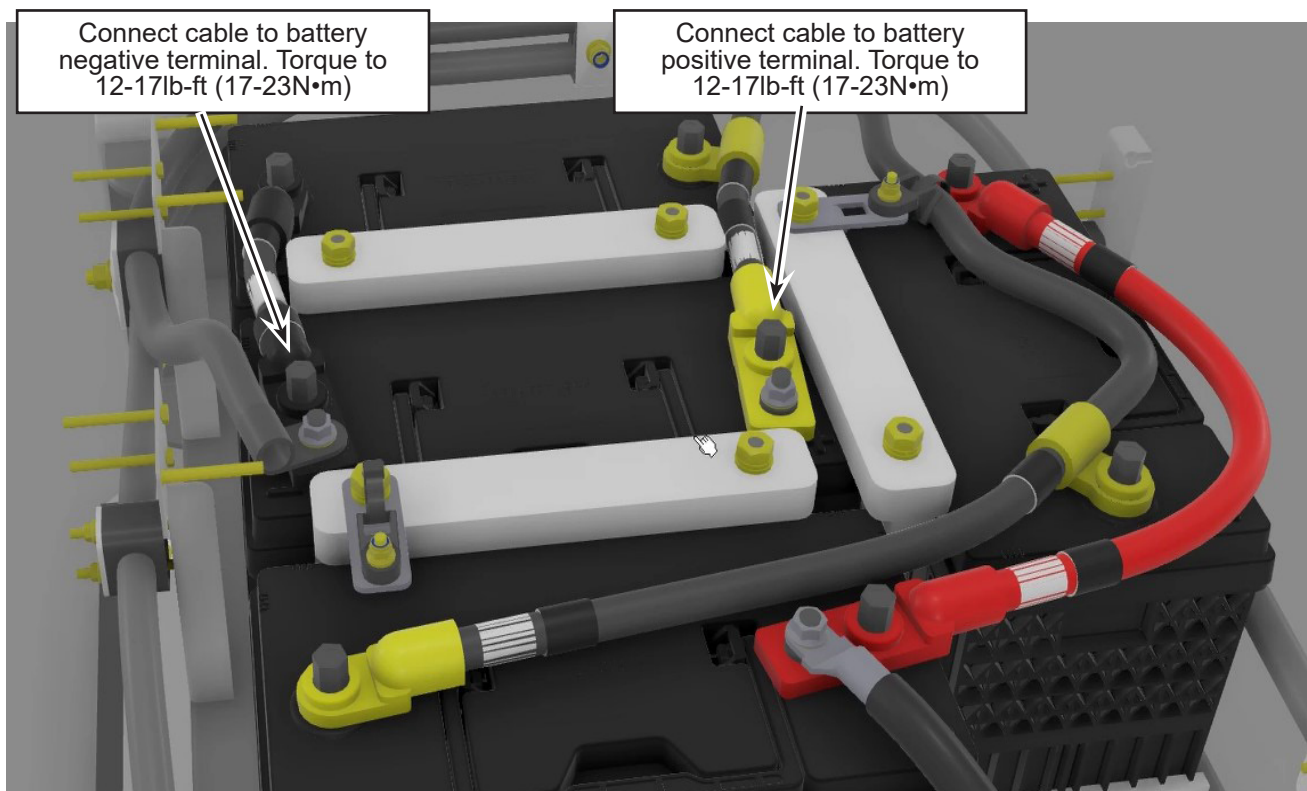

Figure 5 - Battery Terminal Torque Value
- 2.9. Connect positive cable to the battery. See Figure 5 for torque value.
- 2.10. Connect negative cable to the battery. See Figure 5 for torque value.